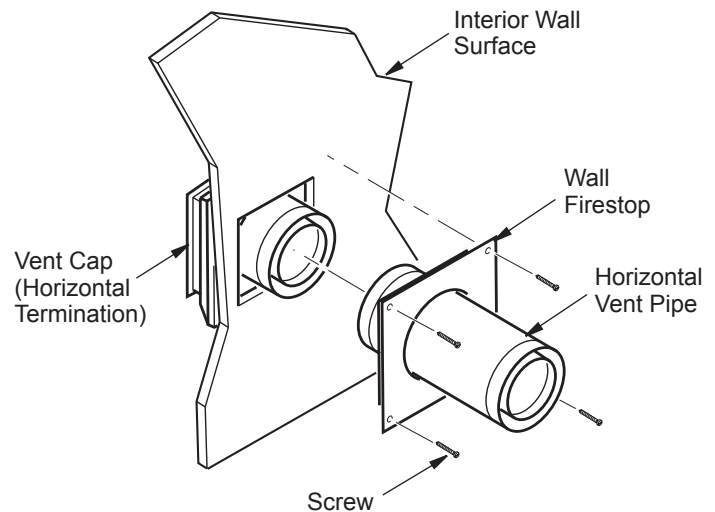

Figure 12 - Connecting Vent Cap with Horizontal Vent Pipe
7. **Combustible Exterior Wall Only:** Slide the wall firestop over the vent pipe before connecting horizontal run to vent cap (see Figure 12).